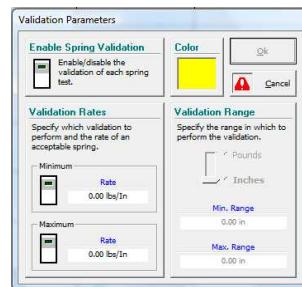

Figure 17: Validation Parameter Settings
**Validation Parameters:** This window allows the user to design a validation test that can quickly show if a spring is outside a group of set parameters. (Figure 17)